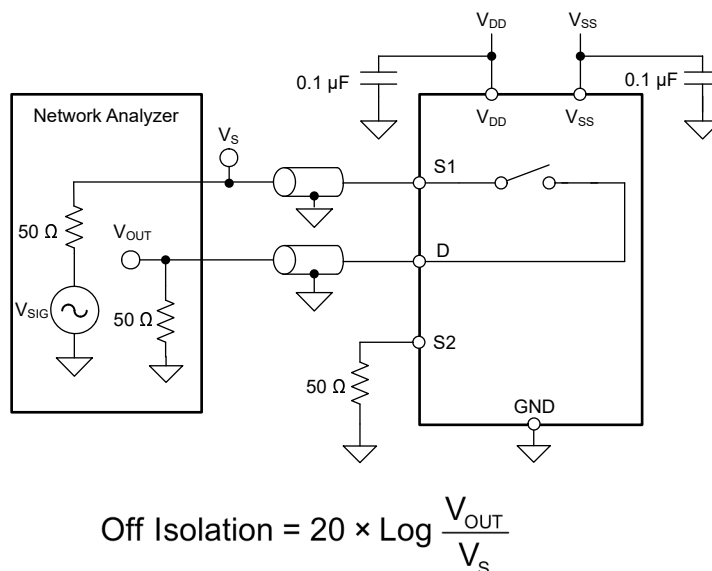

图 6-10. Off Isolation Measurement Setup
Off isolation is defined as the ratio of the signal at the drain pin (D) of the device when a signal is applied to the source pin (Sx) of an off-channel. 图 6-10 shows the setup used to measure, and the equation used to calculate off isolation.